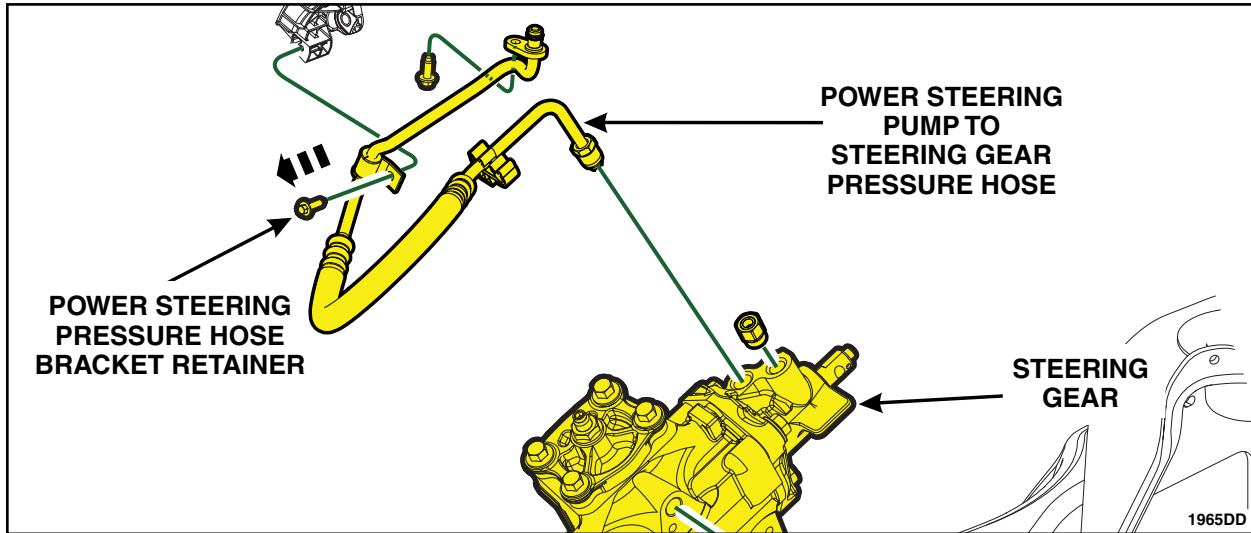

FIGURE 36
5. If equipped, remove the power steering pressure hose bracket retainer. See Figure 36.